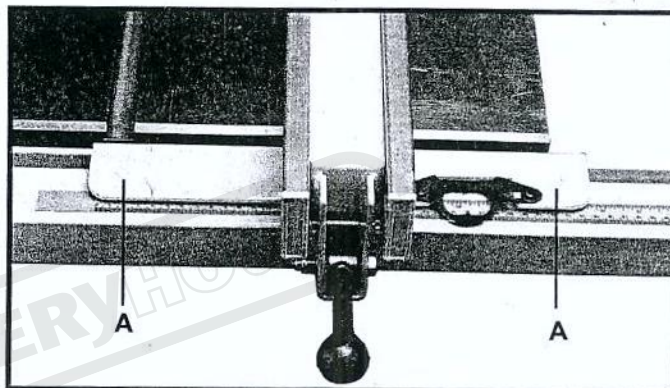
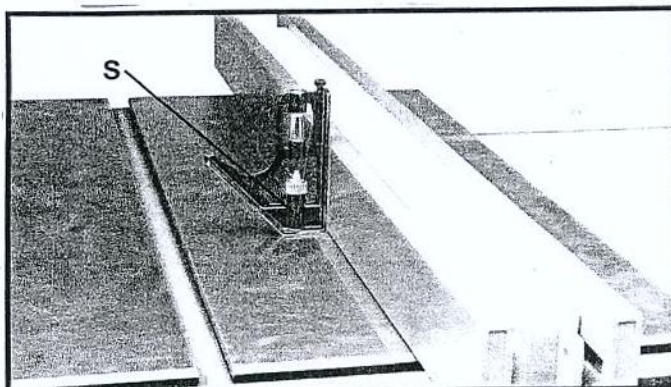
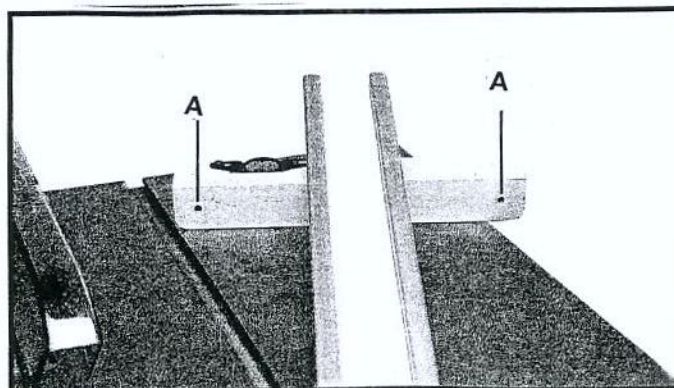

FIG 2
FIG 3
Fig. 4
1. Installation and removal of arbor extension ..... Page 5, Section A (4)
2. Installation and removal of saw blade ..... Page 5, Section A (5)
3. Adjustment of table parallel with saw blade ..... Page 5, Section A (8)
4. Adjustment of blade guard ..... Page 7, Section C (5)
B. BLADE HEIGHT ADJUSTMENT (Figure 4)
3. The blade height mechanism has upper and lower limit stops (Figure 3, Ref. Nos. 12 and 63). These limit stops are set at the factory and need no further adjustment.
C. BLADE TILT ADJUSTMENT (Figure 4)
- i. Loosen locknut (Figure 3, Ref. No. 31) on adjusting screw (Figure 3, Ref. No. 33) and turn adjusting screw clockwise.
- iii. When exactly at 90°, turn adjusting screw (Figure 3, Ref. No. 33) against the lug on the front trunnion (Figure 3, Ref. No. 27). Do not turn too far. Recheck 90°.
- iv. Tighten locknut (Figure 3, Ref. No. 31) securely.
- v. Check tilt indicator pointer. If necessary adjust pointer so it points to the "0" degrees mark on the scale. To adjust pointer, remove hand wheel (Fig. 4, Ref. No. 30) and loosen screw (Figure 3, Ref. No. 21). Be sure to tighten screw securely after adjustment is completed.
- d. If 45° adjustment is necessary, adjust 45° stop in the same manner as the 90° stop. The only exception is that the adjustment bolt and locknut (Figure 3, Ref. Nos. 32 and 31) are on the other end of the rack. Adjust the indicator if necessary.
THIS 12" SAW FENCE BRACKET THERE IS TWO NYLON SCREW (SEE FIG 2)A) CAN BE ADJUST RAISE OR LOWER TO CONTROL THE FENCE 90° TO THE TABLE, USED A SQUARE ON THE TABLE NEXT TO THE FENCE UNTIL THE FENCE IS 90° TO THE TABLE BY ADJUSTING SCREW. (SEE FIG 3).
PLACE THE FENCE NEXT TO THE EDGE LINE OF THE MITRE SLOT AND LOCK IT THE FENCE MUST BE EVEN WITH THE MITRE SLOT FROM FRONT TO REAR. IF NOT, ADJUST ONE OF TWO SETS SCREW LINE (SEE FIG 4)A) UNTIL THE FENCE IS EVEN WITH THE MITRE SLOT EDGE LINE ALONG ITS WHEN BE LOCKED.
- c. ADJUST TWO SET SCREWS WITH 4mm ALLEN WRANGE UNTIL THE FENCE IS HELD SECURELY (SEE FIG 4)A) WHEN THE LOCK HANDLE IS PUSHED DOWN.
A BOTH OF INCHES AND METRIC MEASURE SCALE HAS BEEN BUILT ON THE GUIDE RAIL AT THE FACTORY WHEN THE FENCE LEFT SIDE NEXT THE BLADE RIGHT SIDE LINE LENS INDICATE SHOULD BE POINT ON THE "0" POSITION IF NOT LOOSE 2 ROUND HEAD SCREW REMOVE LENS INDICATE BRACKET TO POINT ON "0" POSITION (SEE FIG 4).
Dado sets have different characteristics than saw blades. As a result, the table saw must be fitted with special parts that are furnished with the saw. The Dayton stationary saw dado set maximum capacity is 5/8" I.D. x 8" O.D. x 13/16" width. When using a dado set the following parts must be substituted (see Figure 3):
Dado table insert (Figure 4, Ref. No. 52)